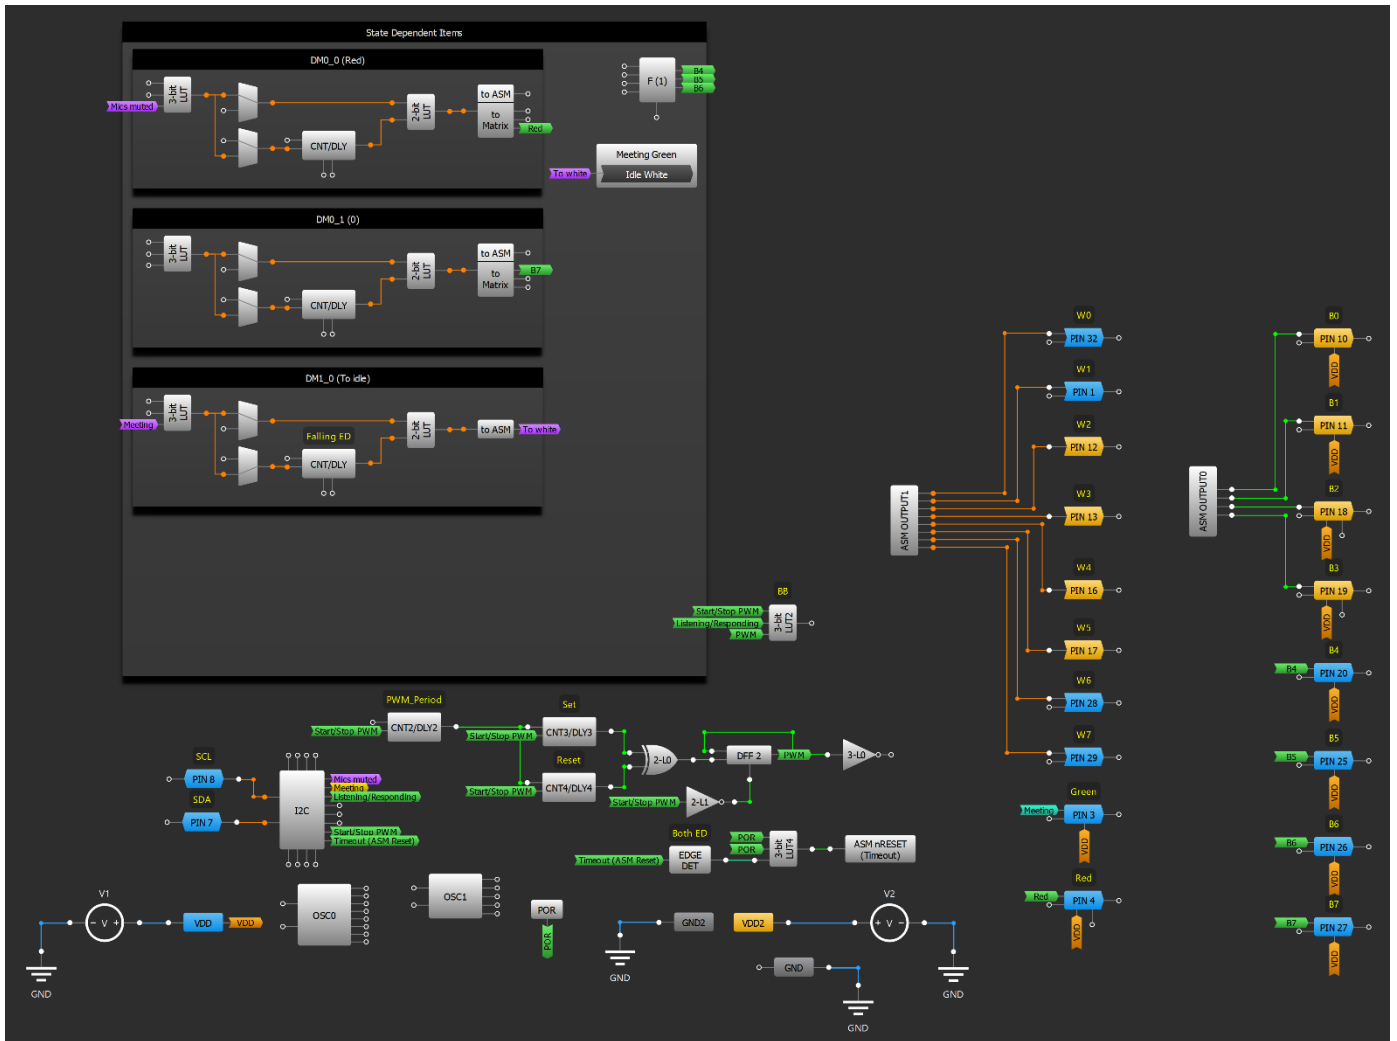

Figure 12: Meeting Green State
**Meeting Green State** (See Figure 12).